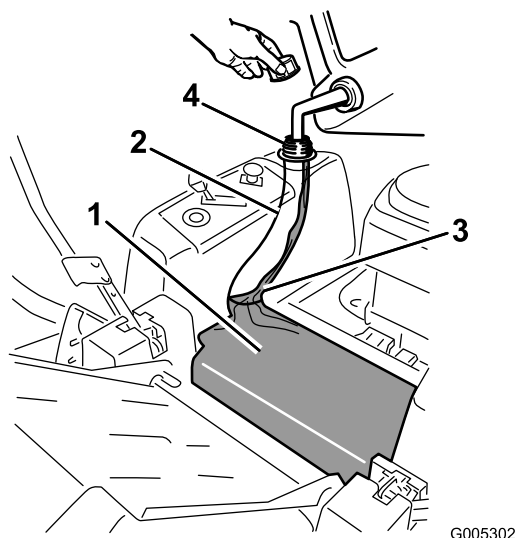

Figure 9
3. Add unleaded regular gasoline until the body of the tank is full but fuel does not fill the neck of the tank (Figure 9). This space in the neck of the tank